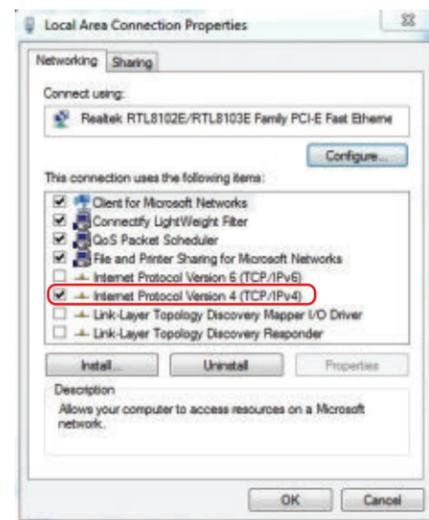

Fig. 6.3
- (2) Click “Properties” to enter “Local Area Connection Properties” (See Fig. 6.3).